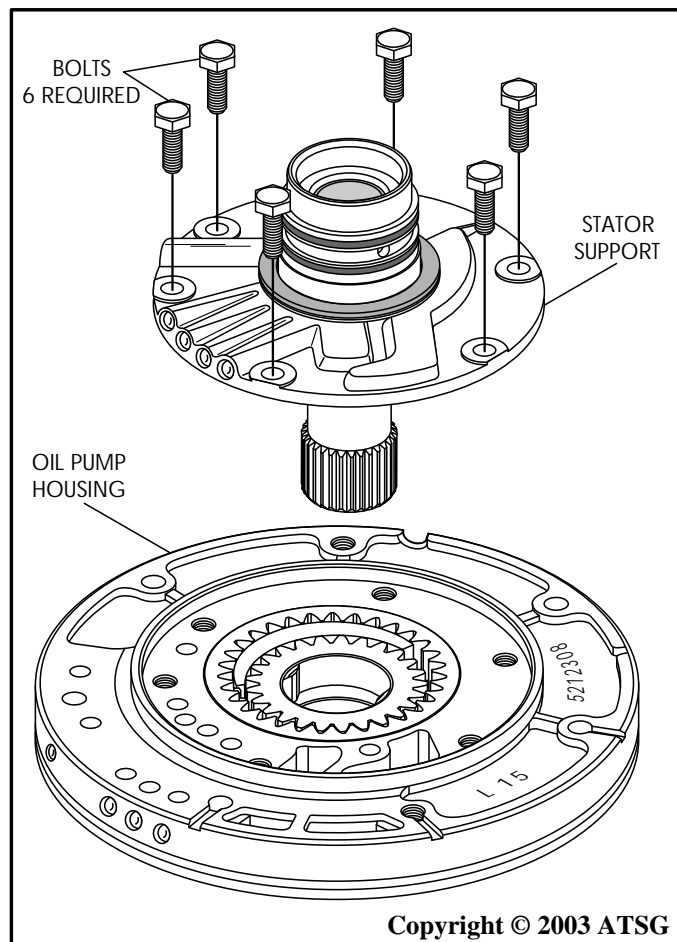

Figure 88
11. Install the completed stator support assembly onto oil pump housing, as shown in Figure 88.
12. Install the six stator support bolts and finger tighten only (See Figure 88).